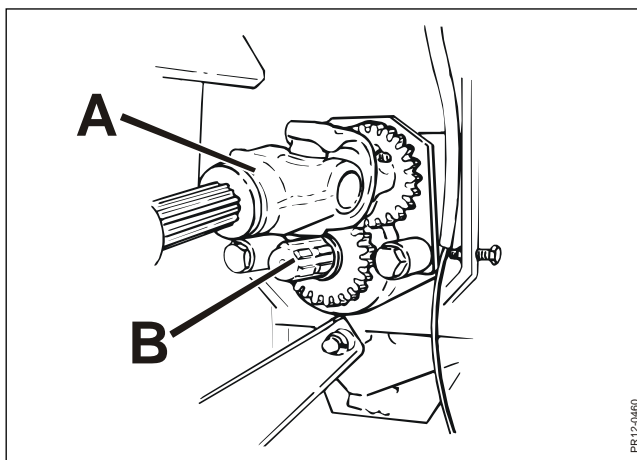

Fig. 5-5
- Fig. 5-5** 2) Move the PTO shaft **A** for the rotor to the alternative pin in **pos. 1** where the gear wheels are not in mesh. Thereby the rotor is not driven.
- Fig. 5-5** 4) After reversing disconnect the power take-off again, and when the rotor has come to a complete stop, move the PTO shaft **A** for the rotor back to the pin **B** for driving the rotor.